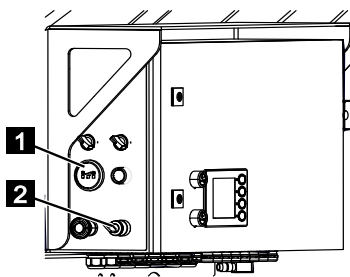

Fig. 220
1. Turn the ignition switch (Fig.220/2) clockwise to [ 1 ].
2. Check the battery capacity on the battery display (Fig.220/1) and compare it with the following table.